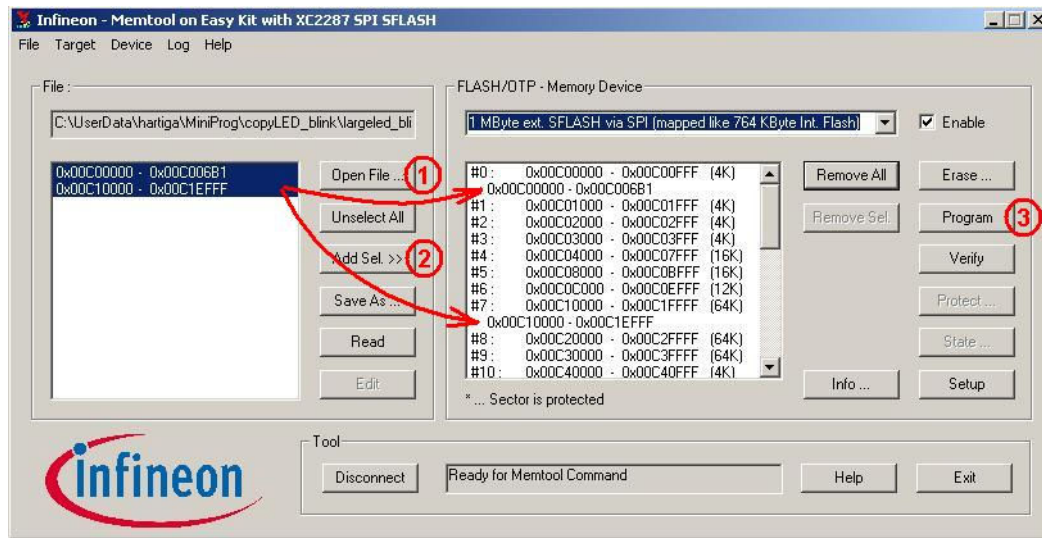

Figure 20 Programming the SFLASH
To program the user code into the serial flash module (see Figure 20) you open the appropriate hex-file (1), select and add all parts on the left side (2), then you simply click 'Program' (3).